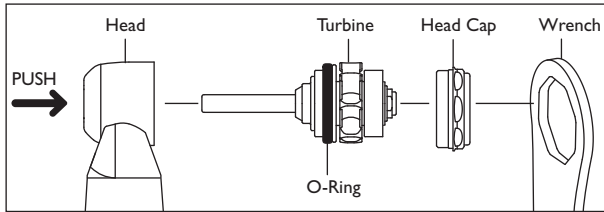

Fig. 10
- Make sure that the O-ring (Fig. 10) is correctly located on the cartridge.